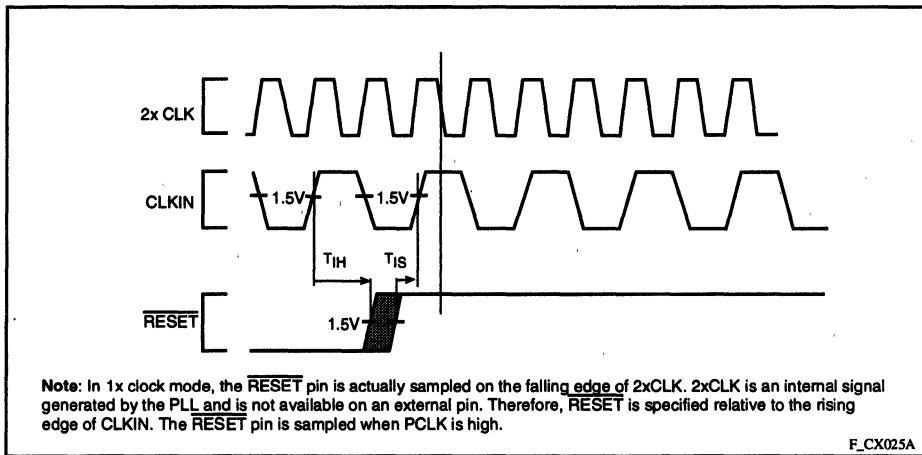

Figure 22. Clock Synchronization in the 1-x Clock Mode
14. In 1-x clock mode, \overline{RESET} is an asynchronous input which has no required setup and hold time for proper operation. However, to guarantee the device exits reset synchronized to a particular clock edge, the \overline{RESET} pin must meet setup and hold times to the rising edge of the CLKIN. (See Figure 22.)